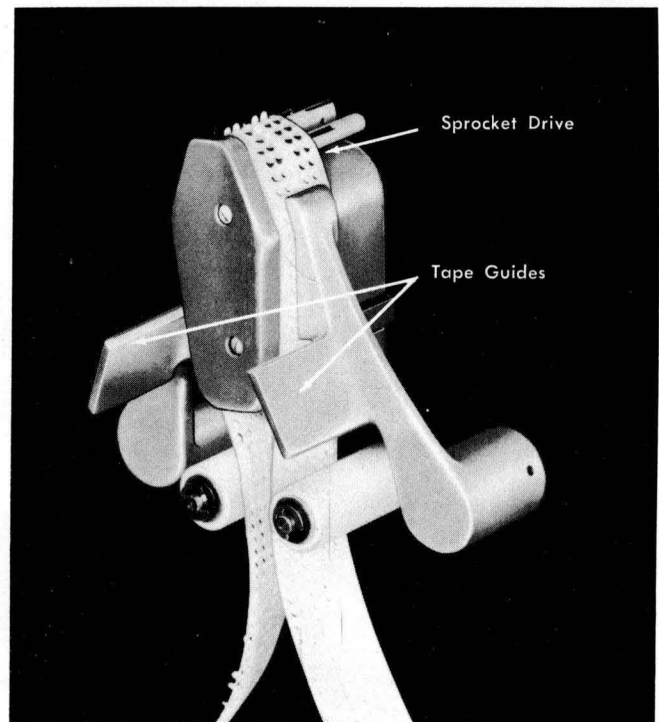

Figure 41. Strip Feeding
2. Open the reading-head tape guides and place a loop of the tape leader over the reading head so that the sprocket drive engages the feed holes. The tape at the bottom of the loop must pass between the two reading-head rollers (Figure 41).